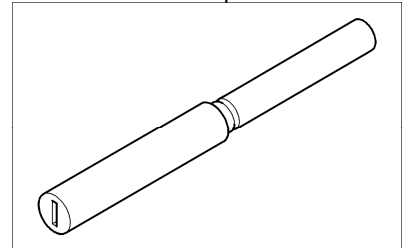

Fig. 6: Flat nozzle – colour coded red
- Note that program no. 7 is not suitable for the red flat nozzle (see Fig. 6).